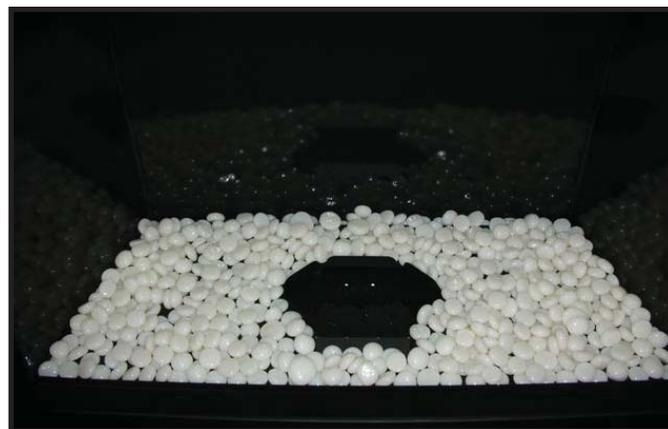

Figure 14.9
5. Spread the rock or onyx evenly across the rock tray. See Figure 14.9. **DO NOT** place rocks in burner area or in front of pilot burner. See Figure 14.8.